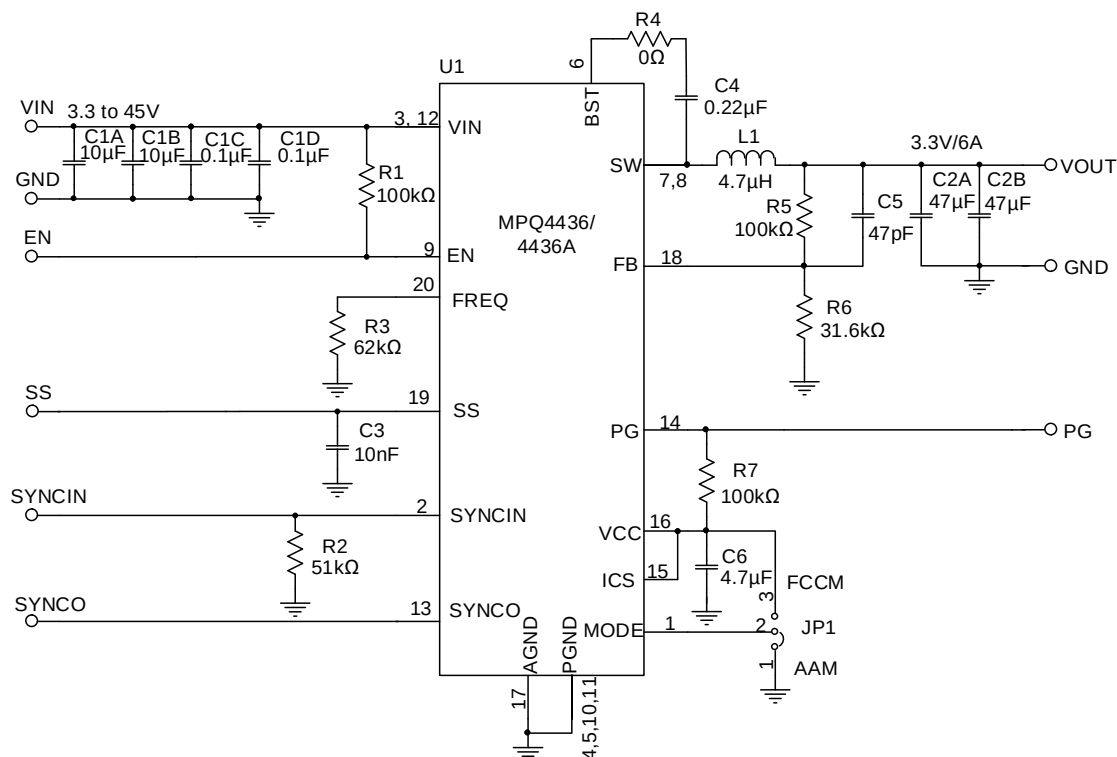

Figure 12: Single-Phase, V_{OUT} = 3.3V, f_{sw} = 470kHz
- 7) The recommended PCB layout is based on Figure 12.